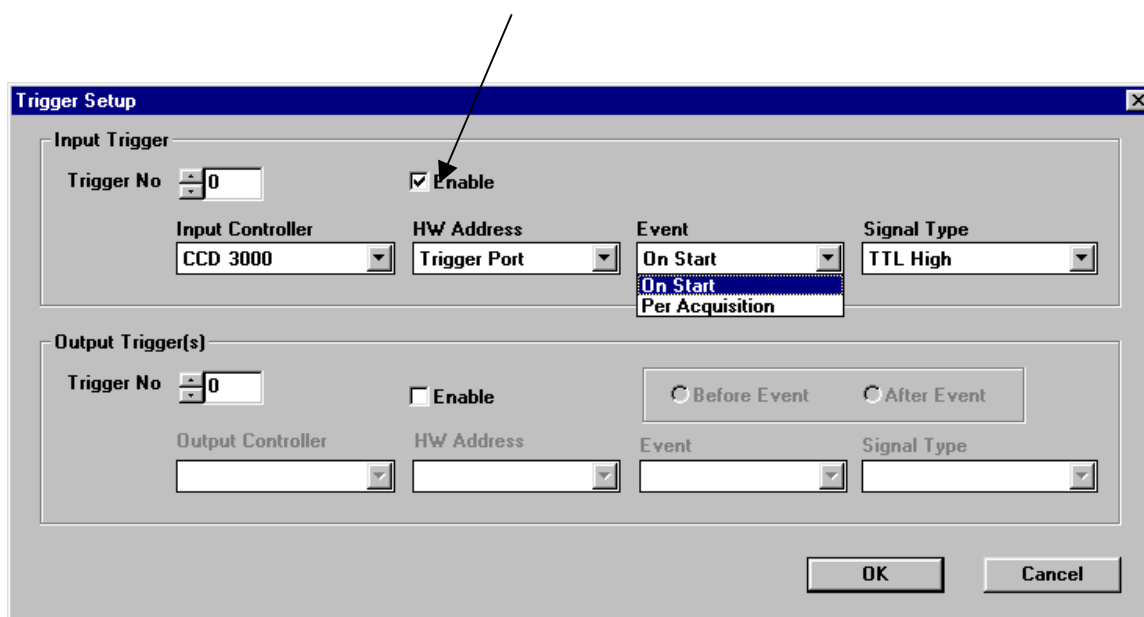

Figure 2. The Trigger Setup window allows the user to activate TTL trigger inputs and outputs. Here, the Input Trigger function is enabled.
3. A Trigger Setup window will appear, as shown in Figure 2.